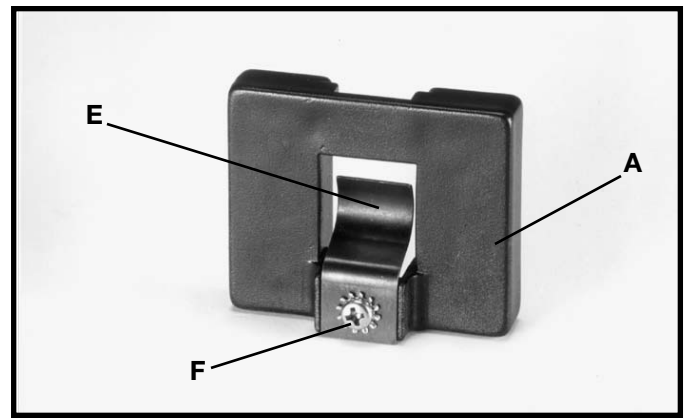
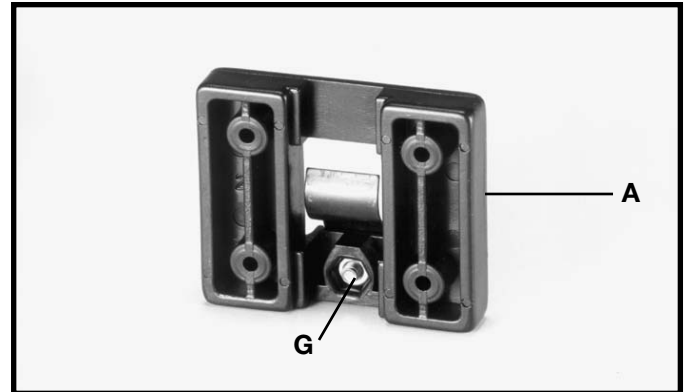

Fig. 26
Fig. 27
2. Assemble spring clip (E) Fig. 26, to the miter gage holder (A) as shown using a M4x10mm pan head screw (F), 3/16" lockwasher and M4 hex nut. **NOTE:** Hex nut (G) Fig. 27, will fit into the recess at the back of the miter gage holder (A) to keep spring clip (E) Fig. 26, secured to the miter gage holder.